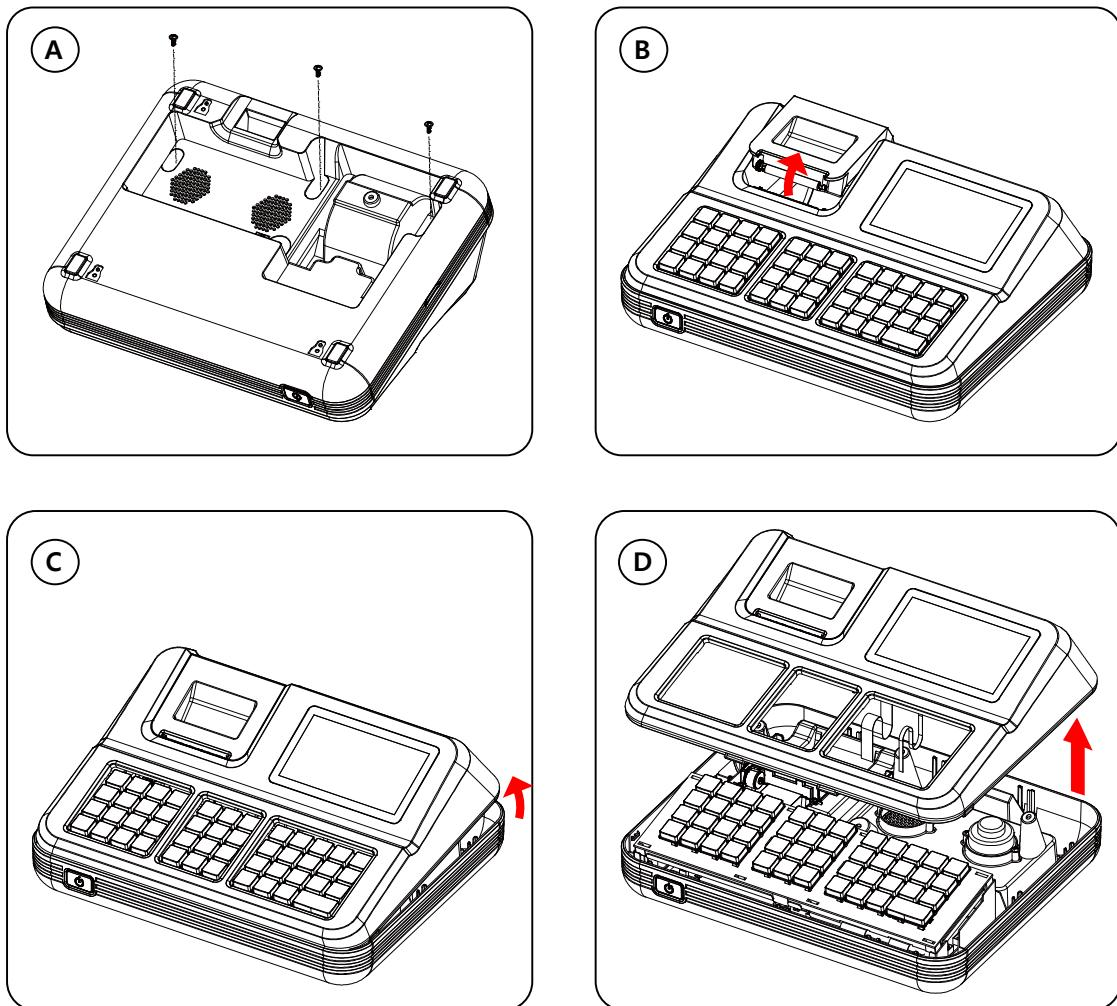

Figure 4-1 Separating the ASS'Y CASE UPPER
1. Remove the three screws(10) from the ASS'Y CASE LOWER.(FIG 4-1(A))
2. Open the COVER PRINTER to unlock it. (FIG 4-1(B))
3. Lift up the back of the ASS'Y CASE UPPER and remove it from the ASS'Y CASE LOWER. (FIG 4-1(C),(D))
4. Separate the three harnesses(@,③,④) from the MAIN BOARD(2) and the PRINTER BOARD(8). (Page 5-1)